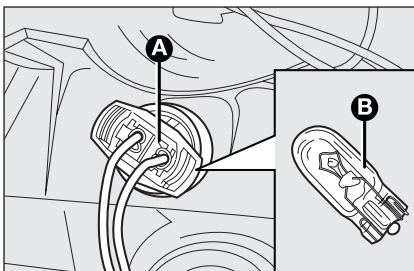

fig. 25
- remove snap-fitted bulb holder **A**-fig. 25, remove the bulb **B** and replace it;